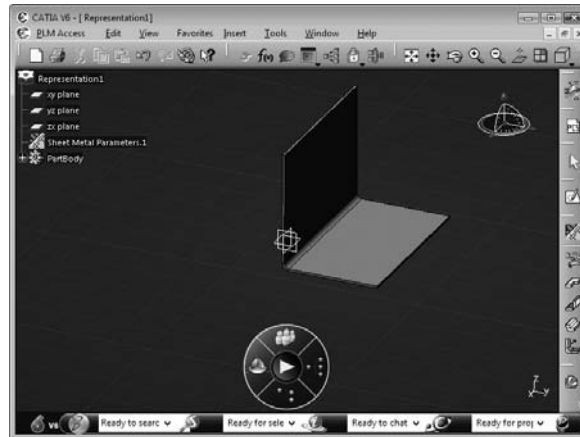

FIGURE 6.65
3. Create a bend on the base wall by selecting **Insert > Walls > Wall On Edge** from the menu bar, as shown in **Figure 6.65**: